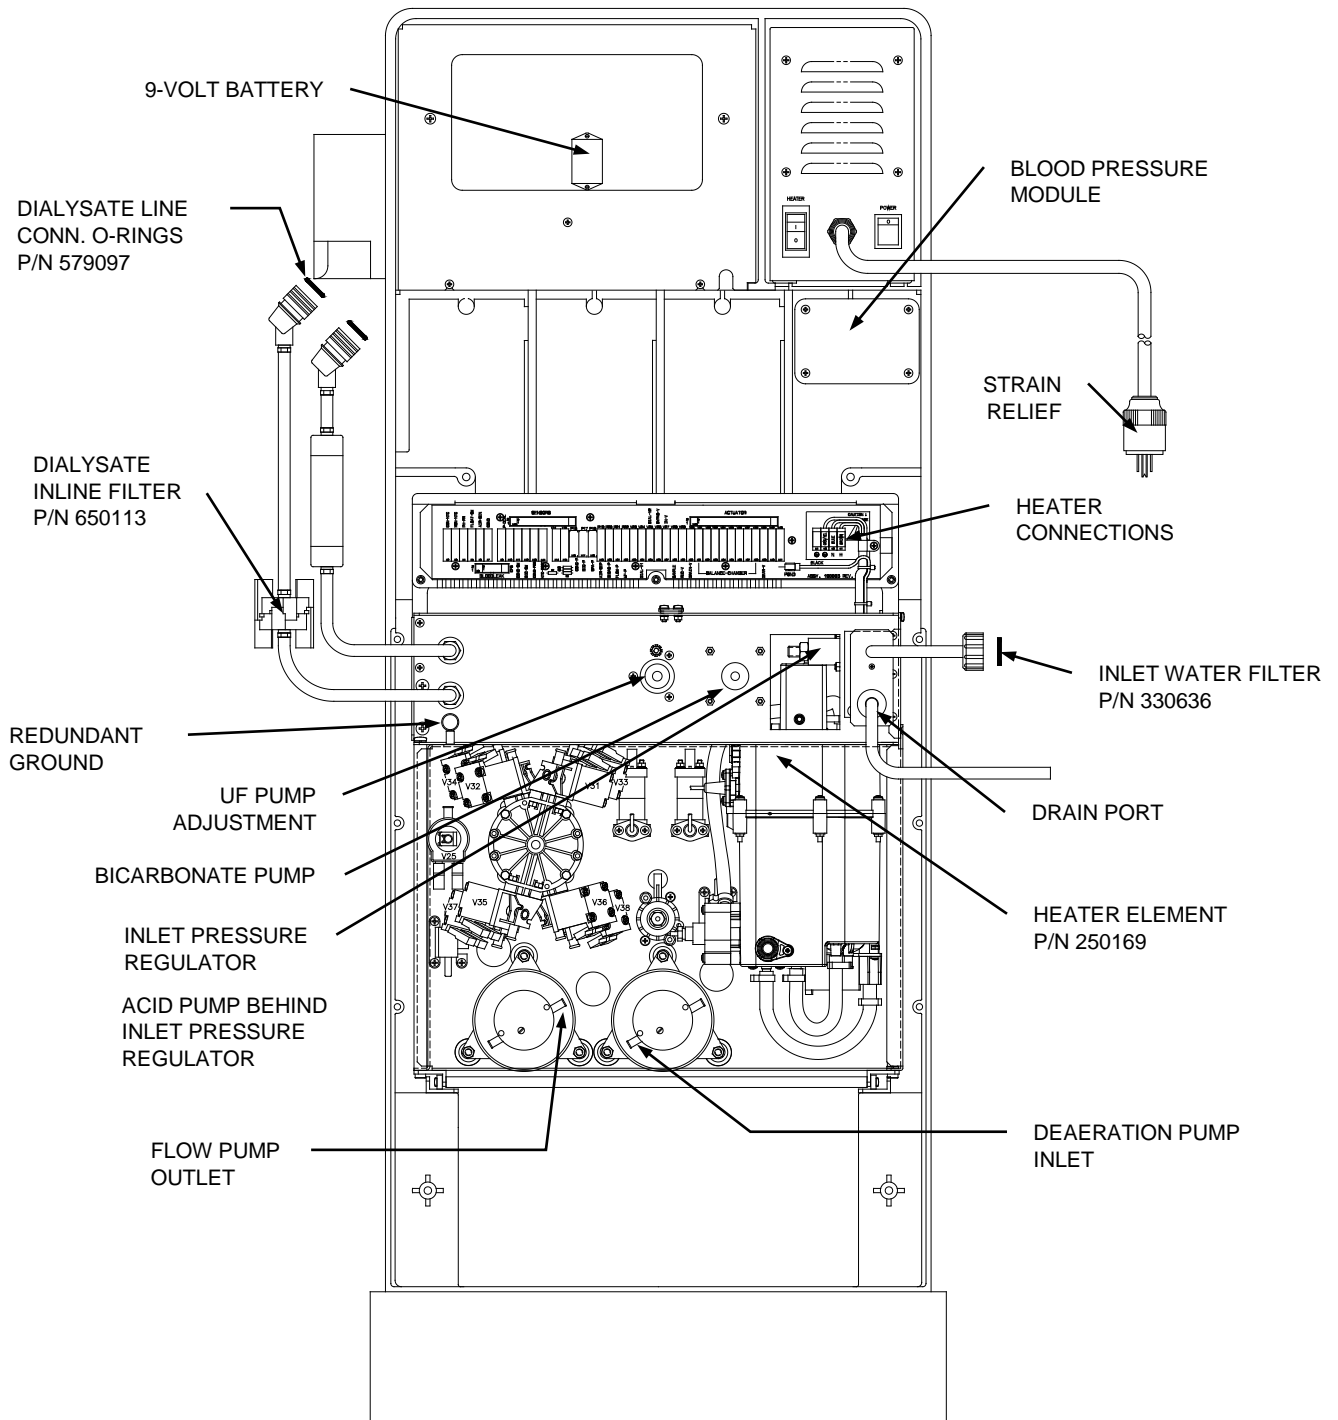

Figure 3. 2008K² Hemodialysis System, Rear View.
1. Inlet Water Filter in the inlet connector of the water supply (See Figure 3, pg. 9).
3. Clean the Dialysate Inline filter (See Figure 3, pg. 9).
1. Remove power from the machine then check and tighten the 8-pin heater connections next to the distribution board (See Figure 3, pg. 9). Check heater block AC connections for signs of arcing or melting.
5. At the strain relief, locate the black, white and green wires from the power cord (inside the power supply chassis). Follow the black and white wires to the main power switch. Attached to the main power switch are four (4) wires (2 black and 2 white). Look for loose connections, cracked insulation, and signs of overheating, such as discolored or melted insulation. Replace wires with power supply wire kit (part number 190411).
7. With a digital multimeter, measure the resistance between the round (ground) pin on the power plug and the redundant ground terminal on the machine (See Figure 3, pg. 9). Verify that the resistance is less than or equal to 0.2 ohm. If the value is above 0.2 ohm, measure the internal resistance of your meter by shorting the leads together, then subtract this value from the resistance measured between the power plug ground pin and the redundant ground terminal on the machine to obtain the true ground resistance.
8. Record the measured value on either the Six (6) Month Preventive Maintenance Checklist or the Annual/4000 Hour Preventive Maintenance Checklist depending upon which is being performed.